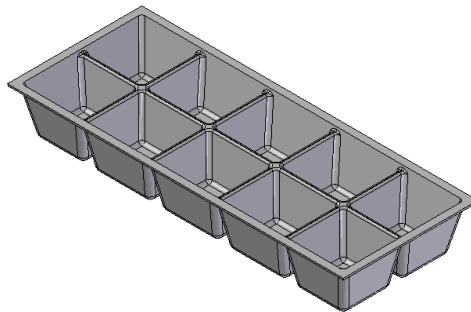

Figure 8-71 Final model of the ice tray
- Add another thin wall feature, refer to Figure 8-71.
4. Choose **Preview** and then the **Finish** button to create the thin wall feature. The final model of the ice tray, after creating the thin wall feature, is shown in Figure 8-71.